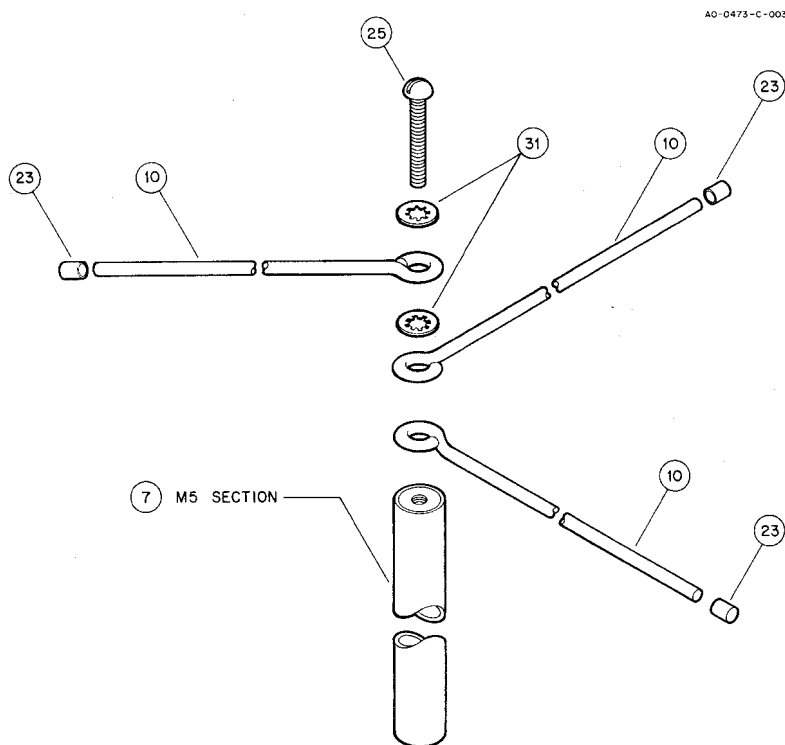

Figure 6
Select the top hat radials (item 10) the 10-24 x 1" round head screw (item 25) and four #10 lockwashers (item 31). Place the following items on the #10 screw in the following order—lockwasher, a radial, lockwasher, radial, lockwasher, radial, lockwasher—and install into the top of the M5 section as shown in Figure 6. Tighten slightly.